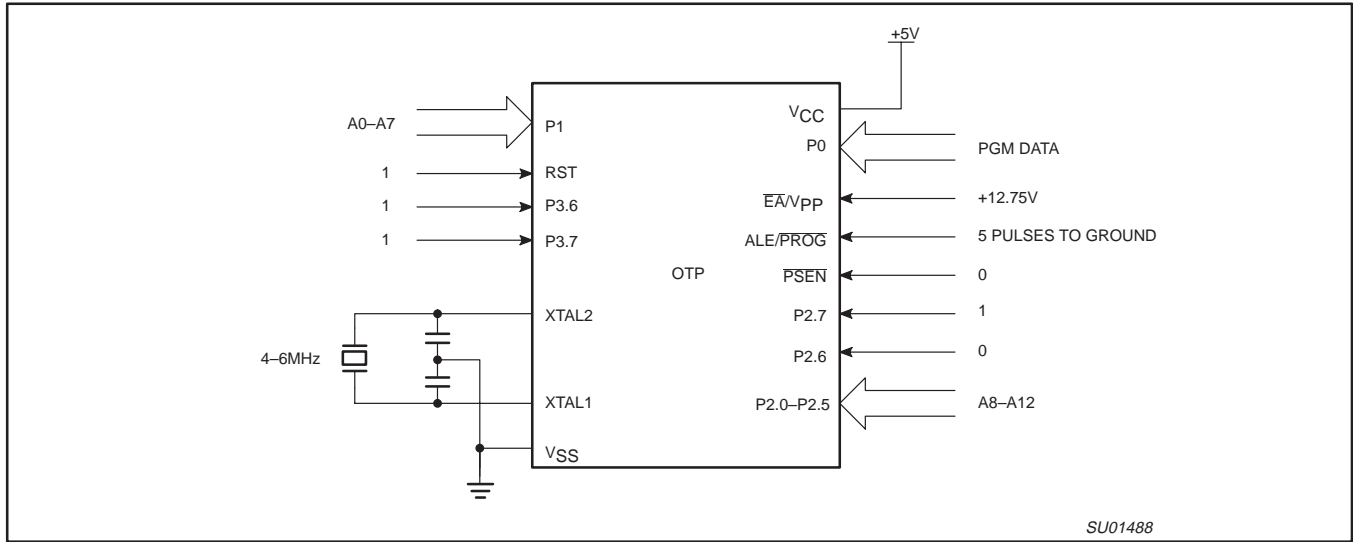
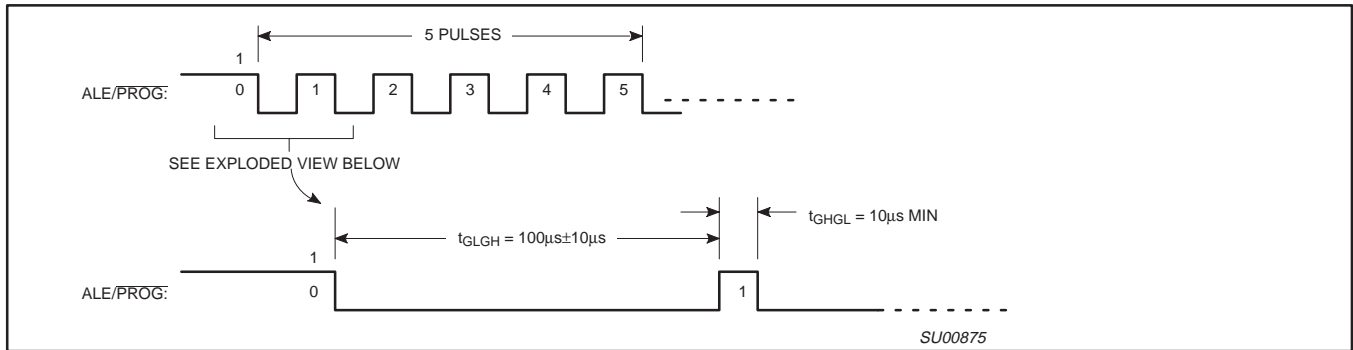
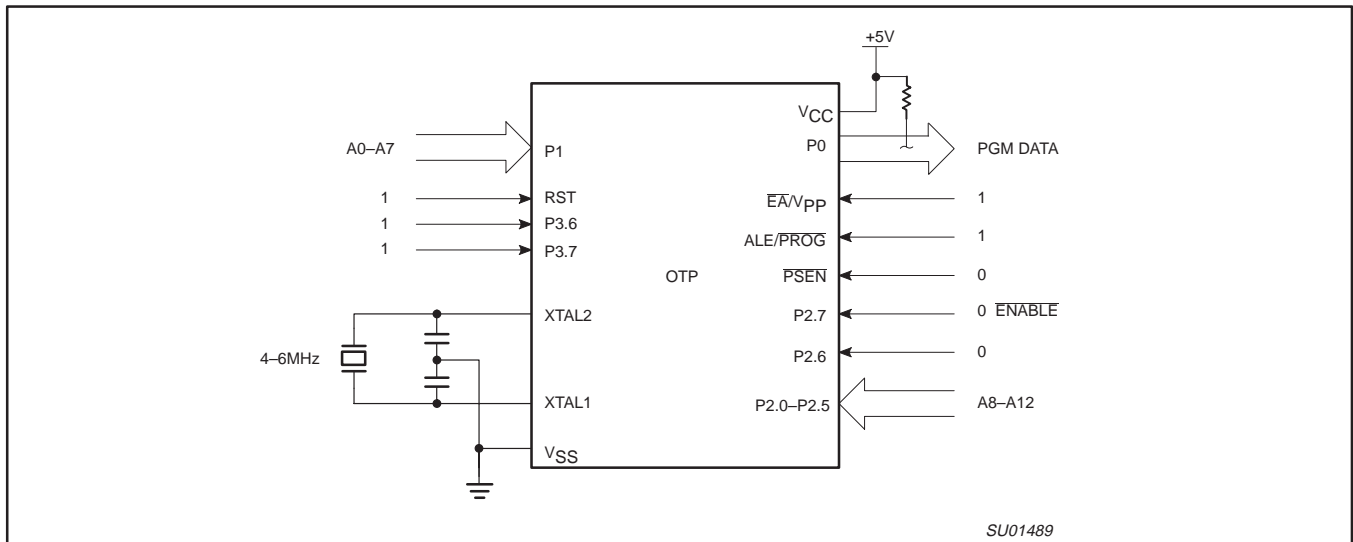

Figure 40. Programming Configuration
Figure 41. PROG Waveform
Figure 42. Program Verification
Table 9 shows the logic levels for reading the signature byte, and for programming the program memory, the encryption table, and the security bits. The circuit configuration and waveforms for quick-pulse programming are shown in Figures 40 and 41. Figure 42 shows the circuit configuration for normal program memory verification.
The setup for microcontroller quick-pulse programming is shown in Figure 40. Note that the device is running with a 4 to 6 MHz oscillator. The reason the oscillator needs to be running is that the device is executing internal address and program data transfers.
The address of the EPROM location to be programmed is applied to ports 1 and 2, as shown in Figure 40. The code byte to be programmed into that location is applied to port 0. RST,  $\overline{PSEN}$  and pins of ports 2 and 3 specified in Table 9 are held at the 'Program Code Data' levels indicated in Table 9. The ALE/ $\overline{PROG}$  is pulsed low 5 times as shown in Figure 41.
If security bits 2 and 3 have not been programmed, the on-chip program memory can be read out for program verification. The address of the program memory locations to be read is applied to ports 1 and 2 as shown in Figure 42. The other pins are held at the 'Verify Code Data' levels indicated in Table 9. The contents of the address location will be emitted on port 0. External pull-ups are required on port 0 for this operation.
- \* FOR PROGRAMMING CONFIGURATION SEE FIGURE 40.
FOR VERIFICATION CONDITIONS SEE FIGURE 42.